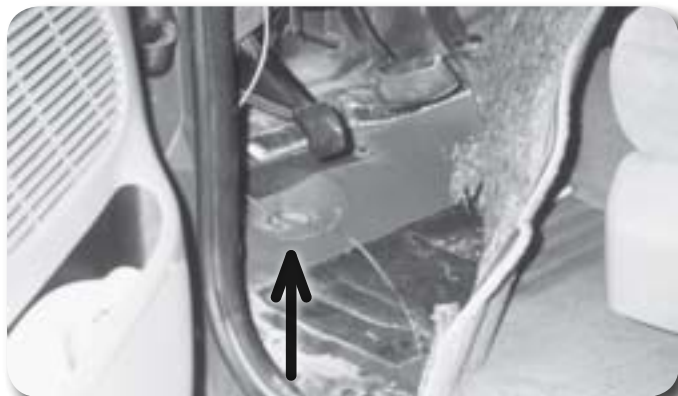

Figure 3
6. Pull the carpet back to gain access to the front cab mounting bolts **Figure. 3**. The bolt head is located under the rubber cap. Pull on the cap to remove. Save cap.